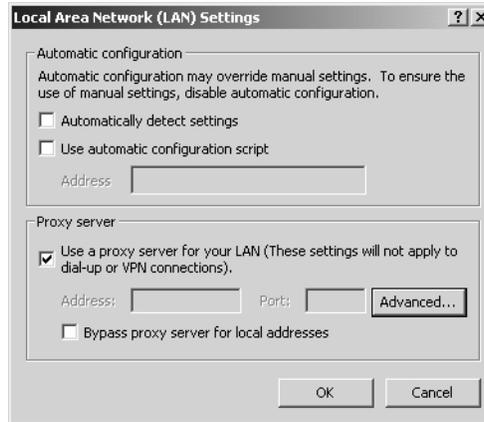

Figure 123: Accessing LAN settings
5. Deselect the Use a proxy server for your LAN check box. See Figure 123.